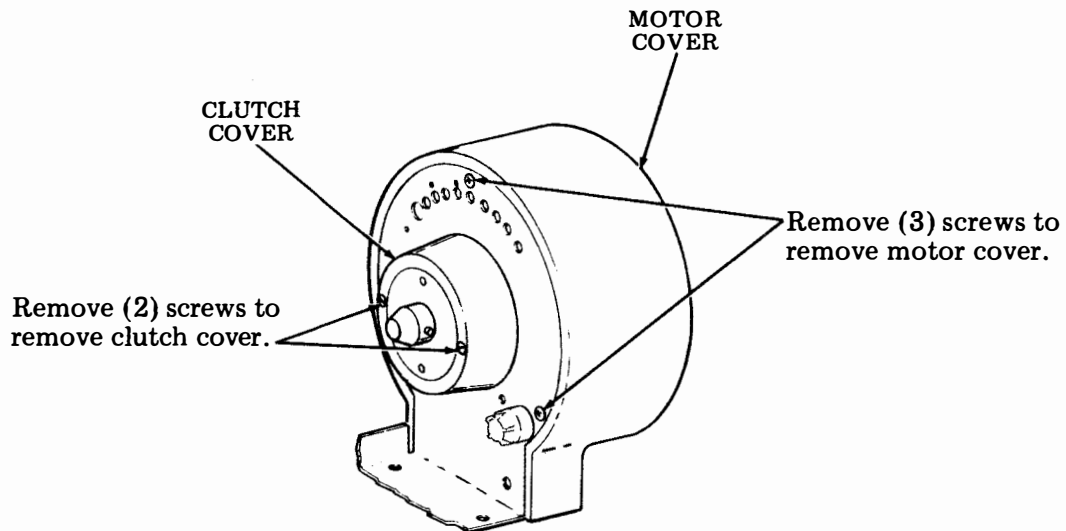

Fig. 10
5.01 Remove paper winder motor cover and clutch cover when making the following adjustments. See Fig. 10.